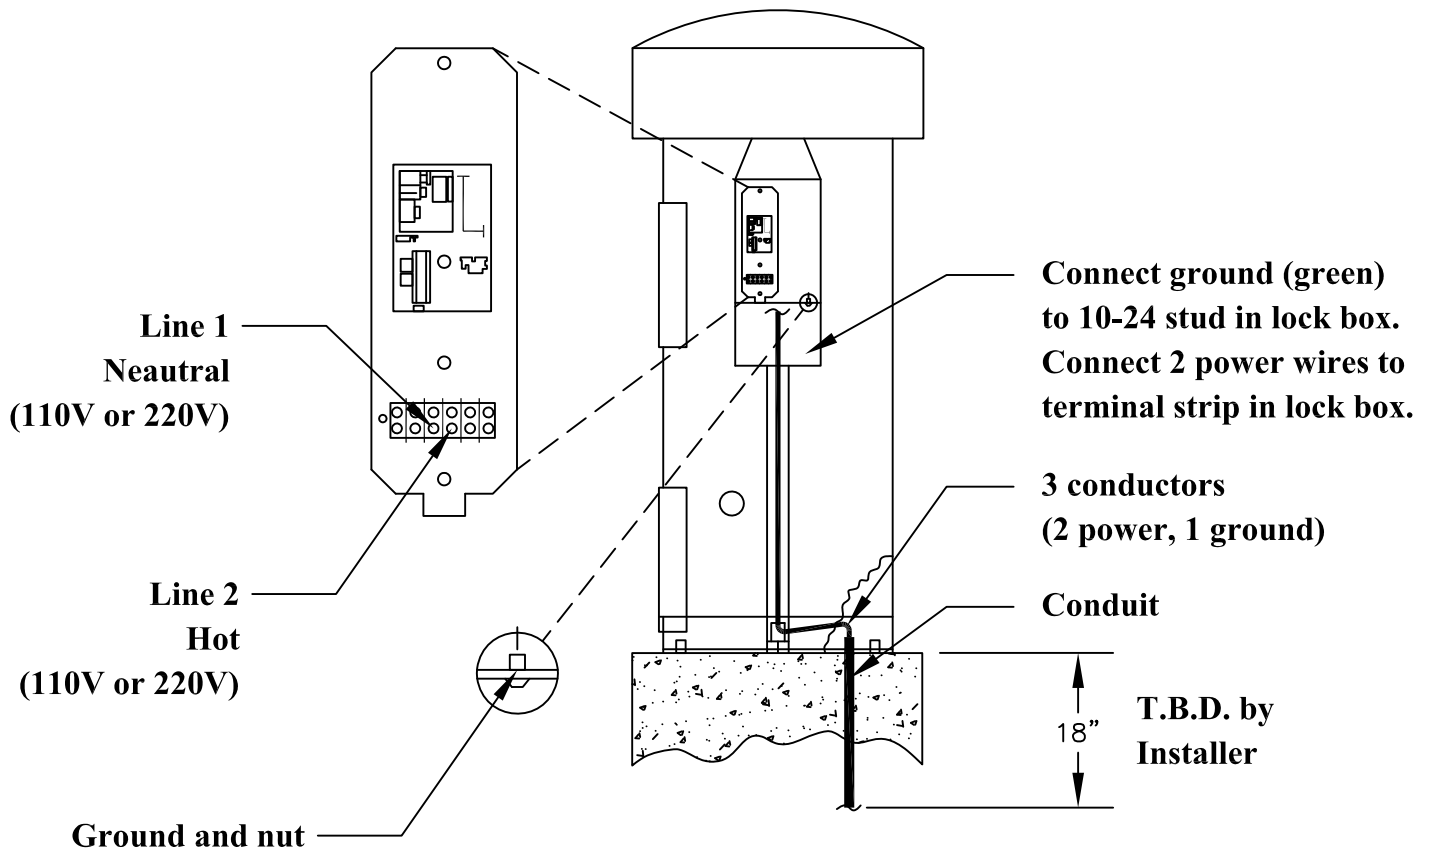

Figure 1: Back view Standard vac installation
2. Mount the unit securely and install electrical service as shown in Figure 1.